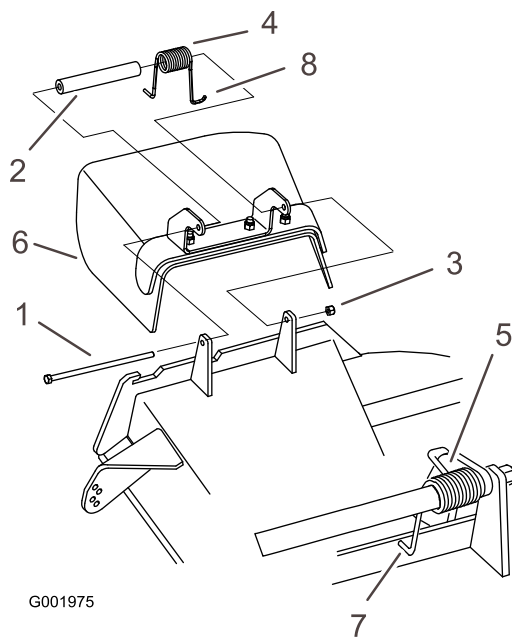

Figure 71
1. Remove the locknut, bolt, spring and spacer holding the deflector to the pivot brackets (Figure 71). Remove damaged or worn grass deflector.
Note: Make sure the **L** end of spring is installed behind deck edge before installing the bolt as shown in Figure 71.
3. Install bolt and nut. Place the **J** hook end of spring around grass deflector (Figure 71).